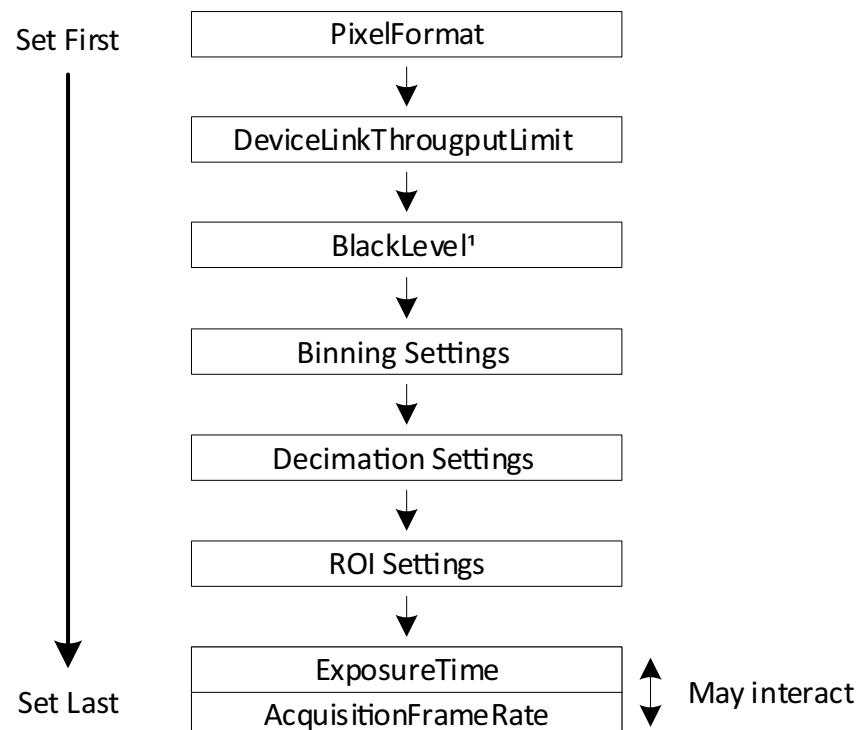

Figure 99: Interdependencies between features
The conversion between time and clock cycles affects control values. Features for pixel format, bandwidth, ROI, exposure time, and triggering are related to each other. Changing values for one feature can change values for another feature. For example, frame rates can be reduced when `PixelFormat` is changed subsequently. Figure 99 shows the interdependencies.
- To avoid readjustments, apply settings in the order shown in Figure 99.